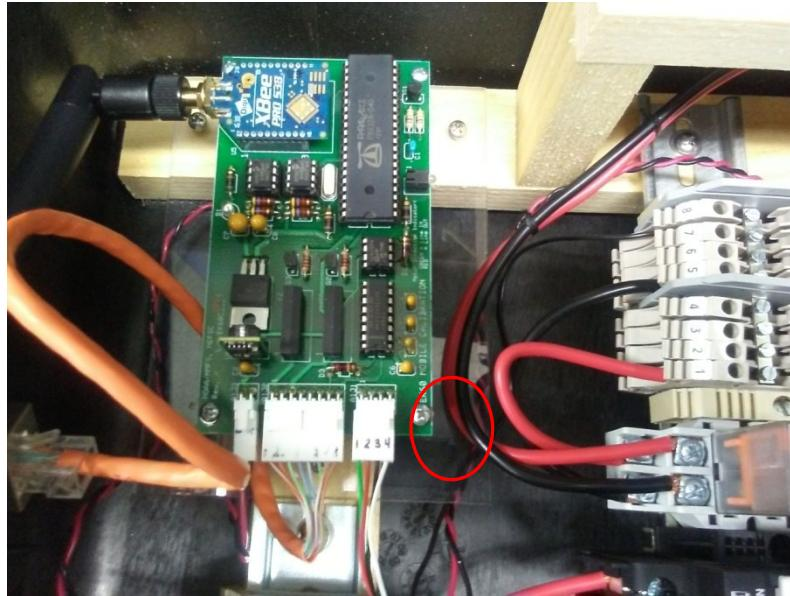

Figure 46: PCB Serial Header Location.
- a. Prior to firmware installation, open the *EchoCal* Control Box, and connect the *EchoCal* Control Box PCB serial header to a Window's based PC's serial port using the **ECHOCAL-10550** Programming cable. (Figure 46)